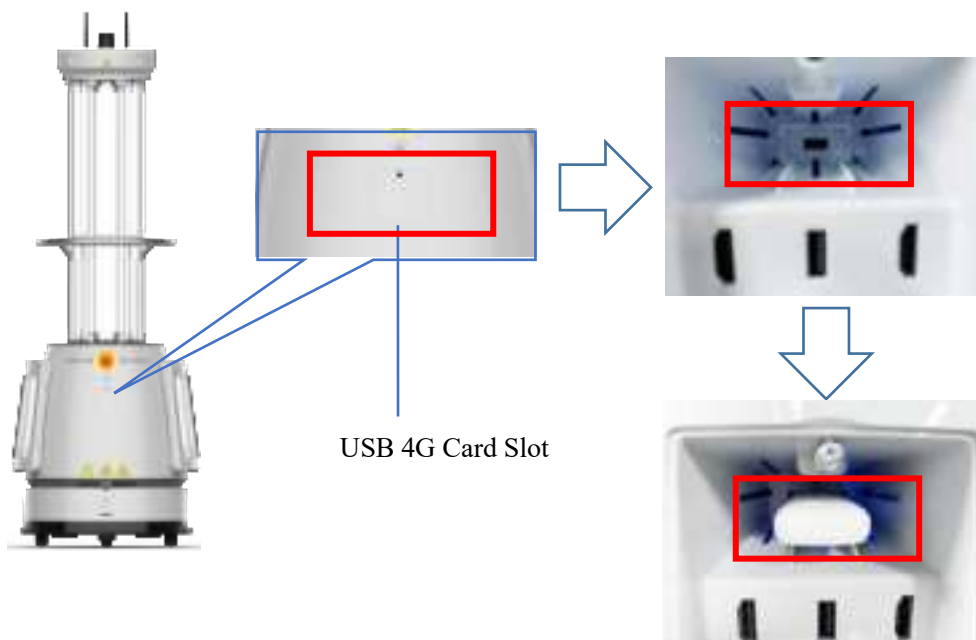

Figure 4.2.1d
2. Use a screwdriver to unscrew the back cover of the robot debug interface, open the back cover, and insert the 4G network card into the robot, as shown in Figure 4.2.1d.